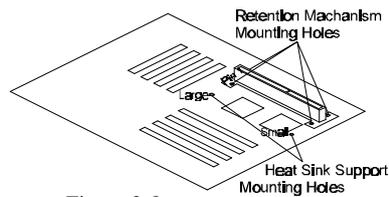

Figure 2-8
1. Find out the Retention Mechanism (RM) Mounting Holes and "Pin 1" mark of Slot 1 on HOT-661/P main board. (Refer to Figure 2-8)
1. Finds out the Heat Sink Support (HSS) Mounting Holes on HOT-661/P main board. Notice that one hole is larger than the other hole. (Refer to Figure 2-8)